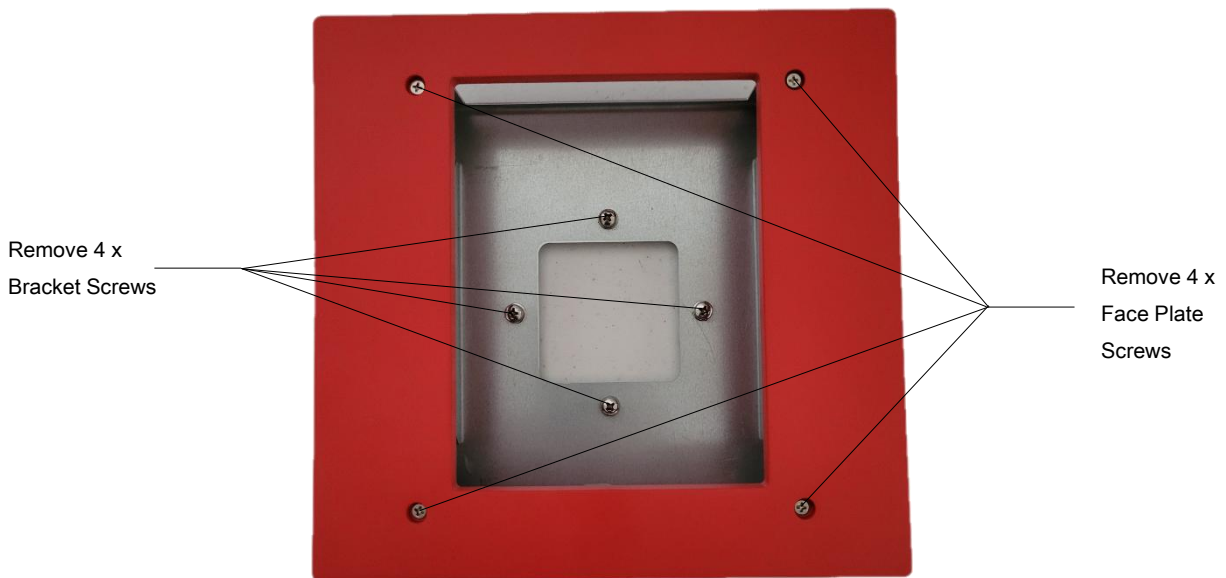

Figure 75: APV3-BDA - Flush Mount Kit Face Plate and Bracket Screw Removal
Follow the instructions below and see Figures 75 through 79, to flush mount the APV3-BDA:
- Remove the (4) Philips head screws holding the faceplate to the mounting bracket. Do not discard screws as these will be used to reinstall the face plate. Remove the face plate.
- Remove the (4) screws that are attached to the mounting bracket from the factory. These screws will be used in the next step to attach the APV3-BDA standard mounting bracket to the flush mount bracket. See Figure 75 below.